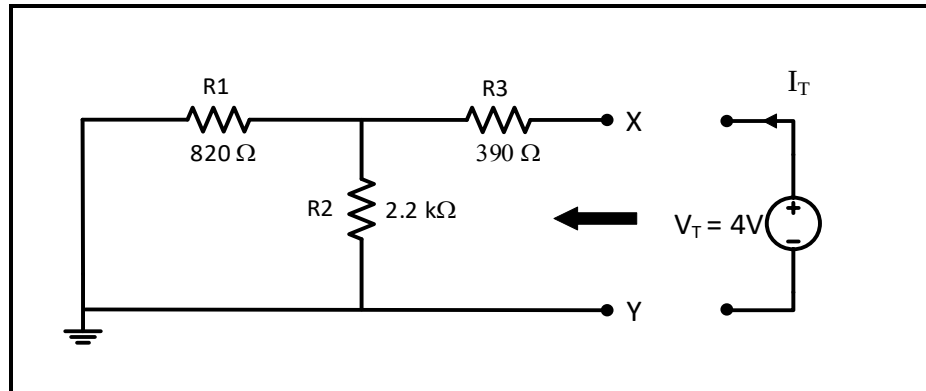

Figure 4.6
- The second method to calculate R_{Th} is by using test voltage source. First kill all independent sources in the circuit (set the voltage source to zero as shown in figure 4.6)
- The third method to calculate R_{Th} is by connecting an **ohm meter** between points X and Y in place of the test source in figure 4.6, **measure R_{Th}** , record result in Table 4.6.